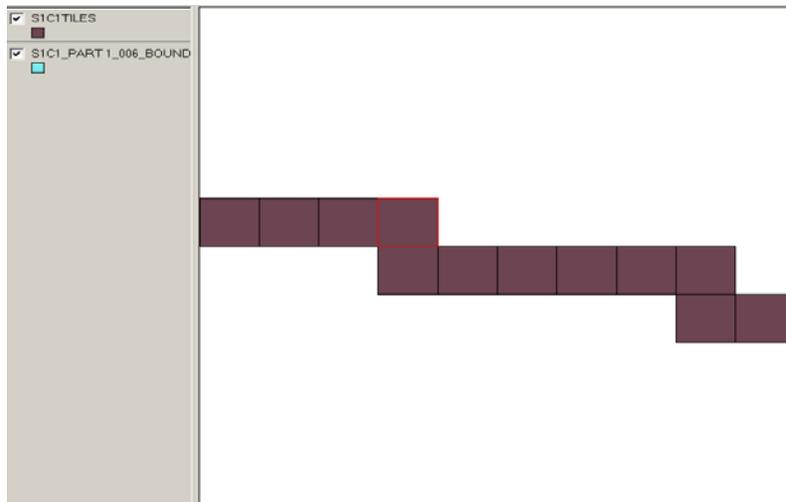

Figure 16: Created tiles as a separate layer
- After the tiles are created the analyzer would display a window as shown in Figure 16